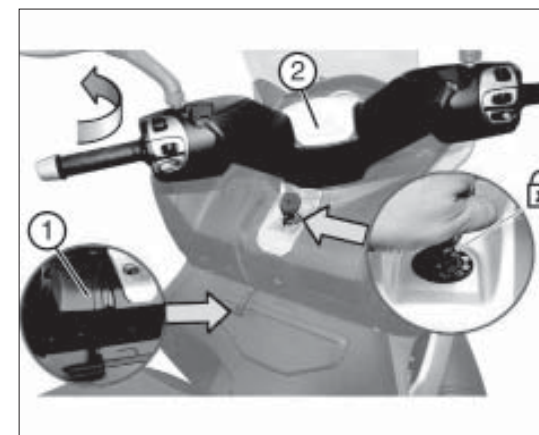

fig. 8
- with the handlebar straight ahead, move the parking lever 1 fig. 8 downwards;
- turn the handlebar 2 fig. 8 leftwards;
**Lever 1 fig. 8 remains in the locked position until the steering lock is unlocked and the handlebar is straightened up.**